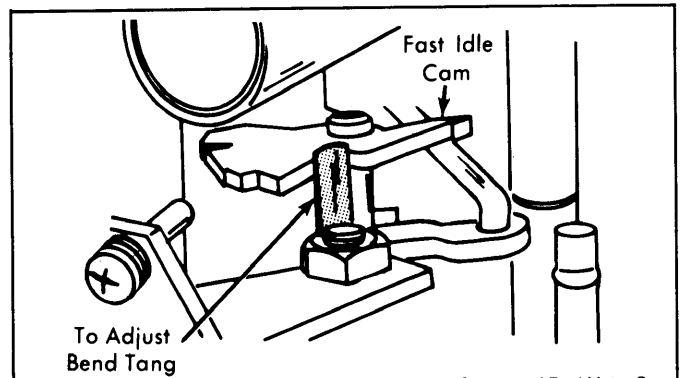

Fig. 7: Choke Unloader Adjustment
2) To adjust, bend metal tang on fast idle speed lever attached to throttle shaft. See Fig. 7.